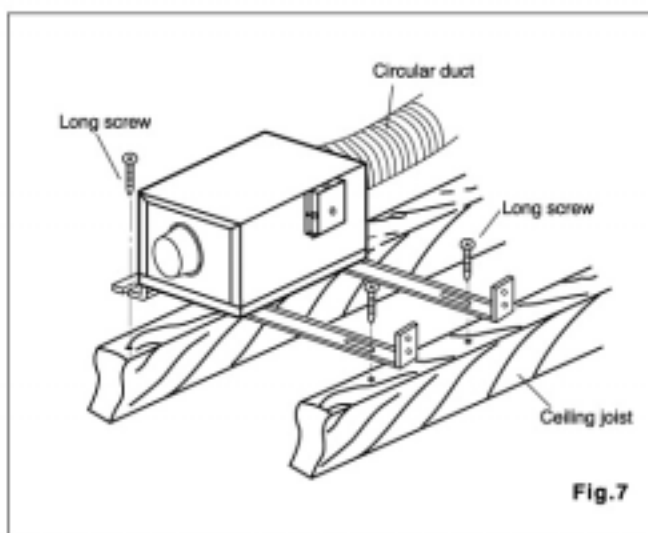

Fig.7
2. Extend installation bracket and put the unit on the ceiling or joist. Secure with long screws. (Fig.7)